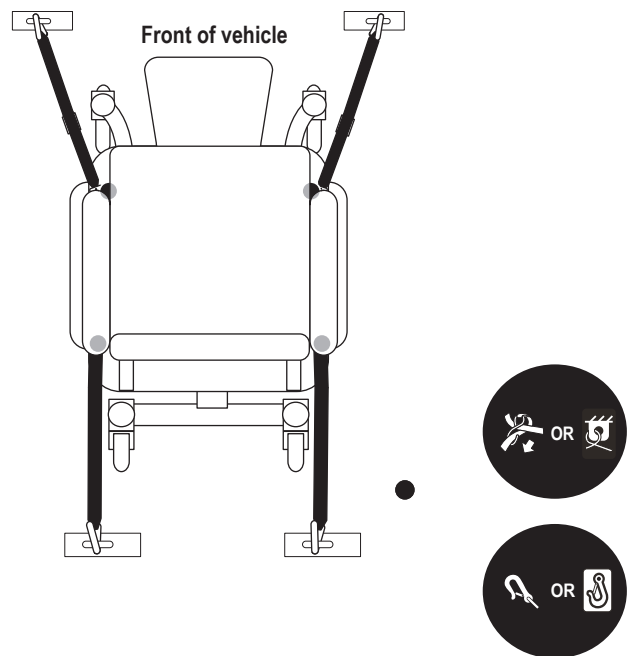

Figure 1. Securing the Power Chair
- Attach the four, six, or eight tie-down straps only to designated, labeled transit securement points indicated by anchor symbols on the power chair. **See figures 1 through 9.** Tighten the straps to sufficiently remove all slack.
- Position the anchor points for the rear tie-down straps directly behind the rear securement points on the power chair. The front tie-down straps should anchor to floor points that are spaced wider than the power chair to provide increased lateral stability. **See figure 1.**